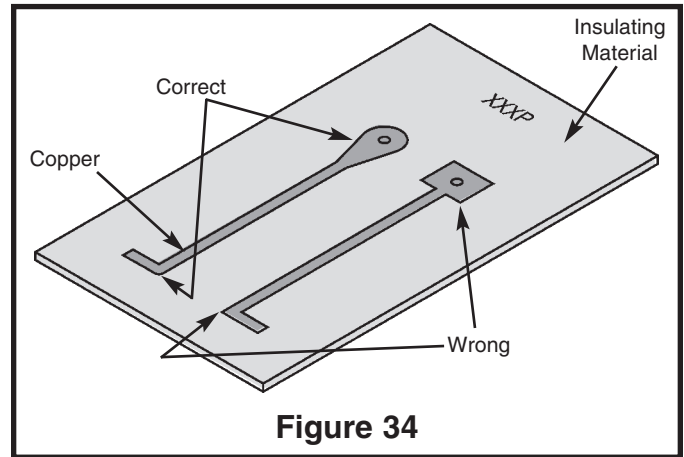

Figure 34
6. Avoid the use of sharp corners when laying out copper (see Figure 34). Sharp corners produce high electric fields that can lower breakdown. Sharp corners will also make it easier for copper to peel from the board.